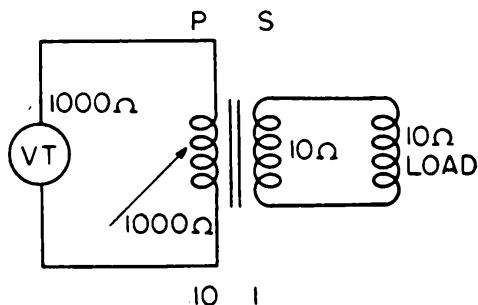

Figure 20.—Transformer used to match impedance between a vacuum tube and a load.
In figure 20, you are to use a transformer to match the impedance of a vacuum tube, to a 10-ohm load. The R_p of the tube is 1,000 ohms. To do this, the turns ratio between primary and secondary must permit the transformer primary to offer 1,000 ohms impedance to the vacuum tube, and the secondary to offer 10 ohms impedance to the load.
secondary from figure 20 in equation (4), the relationship becomes—